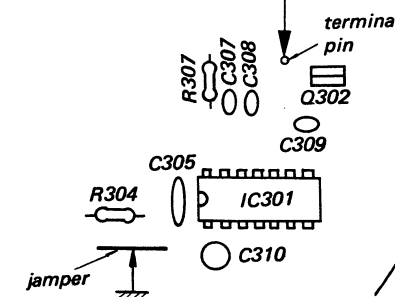

Fig. 1
- Ground the jumper. (See Fig. 1)